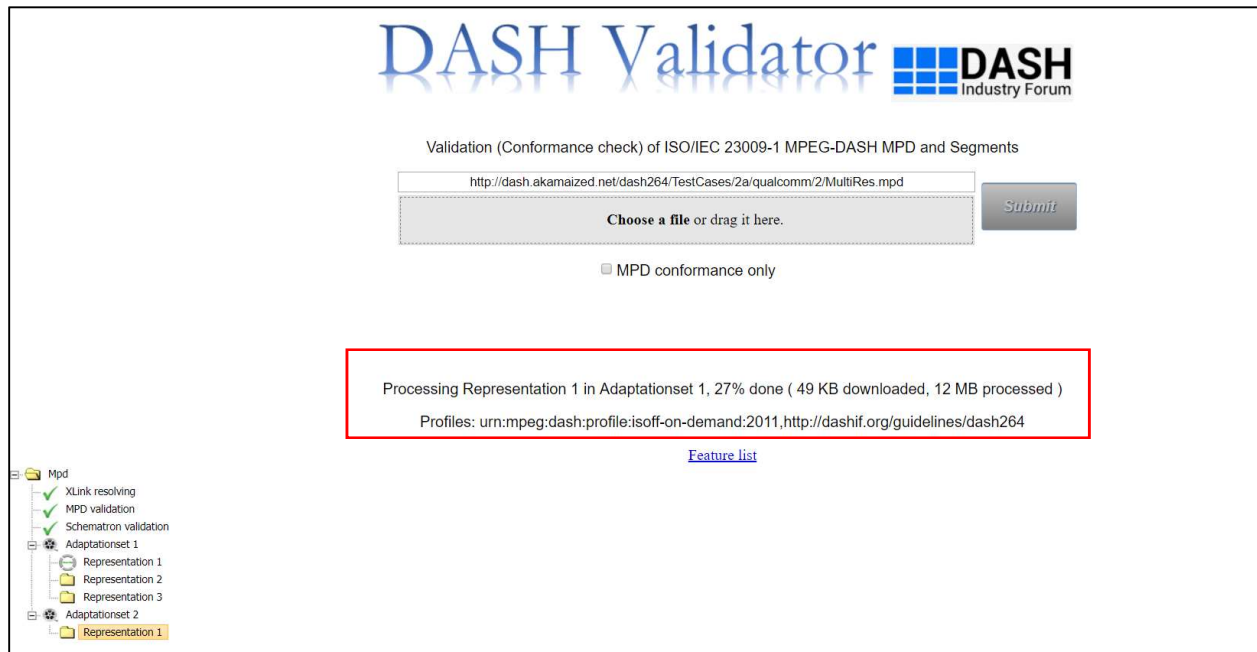

Figure 5 Display of progress information
3. The progress information is printed once the MPD processing starts. Profiles of MPD are also displayed on the UI as shown in Figure 5.